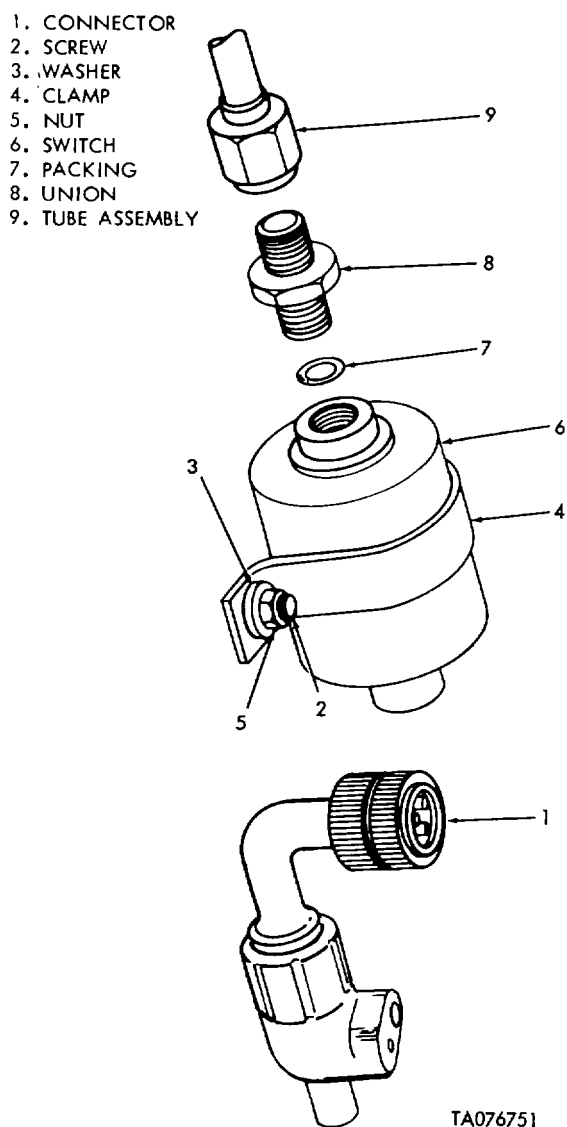

Figure 3-56. Reduced Pressure Switch Removal
a. Removal (fig. 3-56).
- (1) Disconnect electrical connector (1).
- (2) Disconnect tube assembly (9), screw (2), nut (5), washer (3), clamp (4) and remove switch (6).
- (3) Remove union (8) and packing (7).